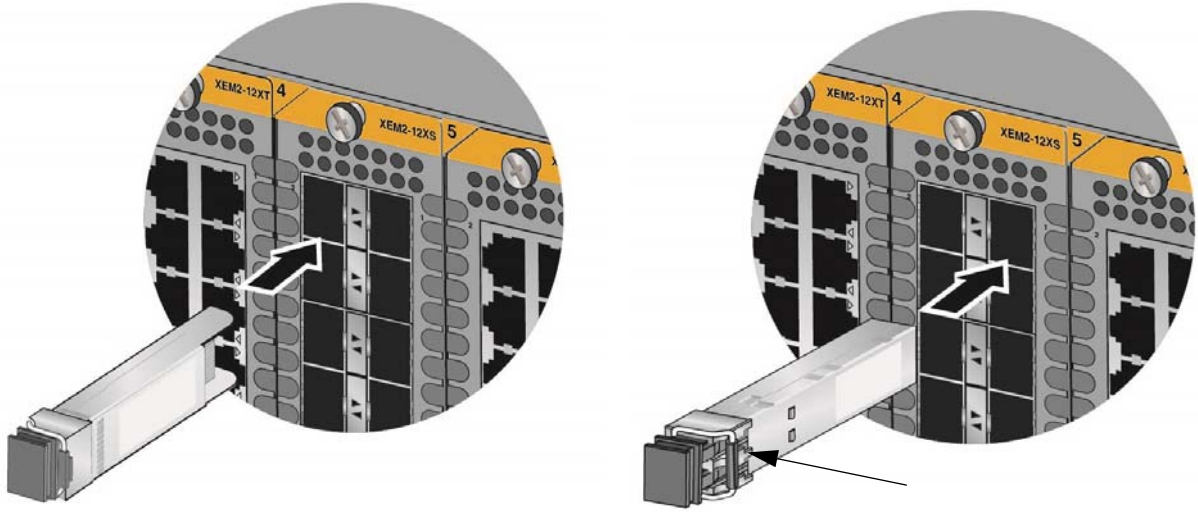

Figure 98. Installing an SFP Transceiver in the XEM2-12XS Line Card
- XEM2-8XSTm or XEM2-12XS Line Card - To install a transceiver in an odd numbered slot, position its handle on the right. To install a transceiver in an even numbered slot, position its handle on the left. Refer to Figure 98 on page 139.